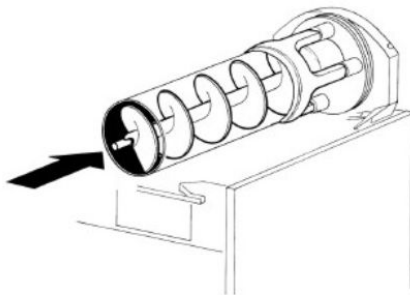
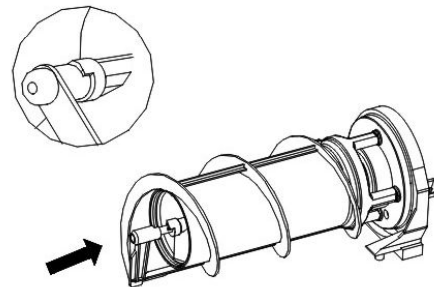

figure 10
figure 9
5. Insert the auger into the evaporator taking care to accompany it to the end so in order to prevent it from hitting against the rear wall (fig.10). Install the outer spiral by sliding it over the evaporator until its front notch engages with the exposed end of the auger shaft(fig.9)